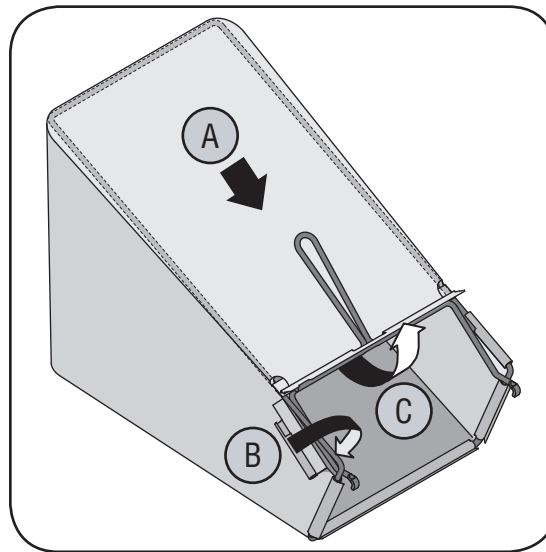

Figure 3-5
- Place bag over frame so that its black plastic side is at the bottom. See Figure 3-5.